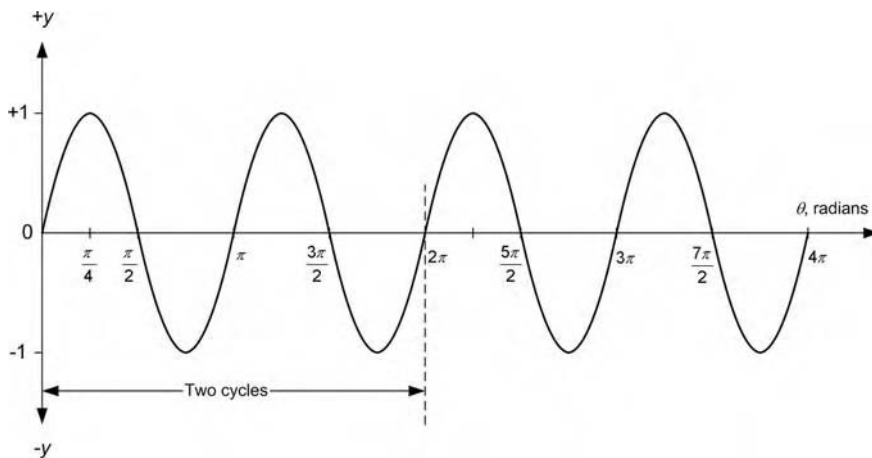

Figure 2.53
76. Which of the following functions is represented by the graph shown in Figure 2.53? [B1, B2]